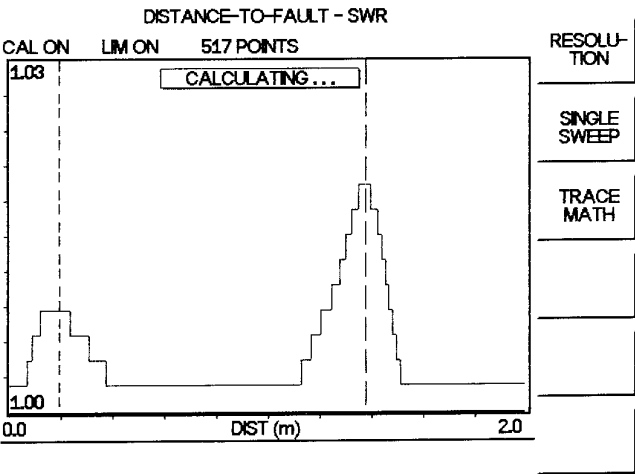

Figure 4-10. DTF - SWR Measurement Results (cable quality)
Step 30. Press the **MARKER TO PEAK** soft key to find the maximum SWR or Return Loss reading. (See Figures 4-10 and 4-11.)